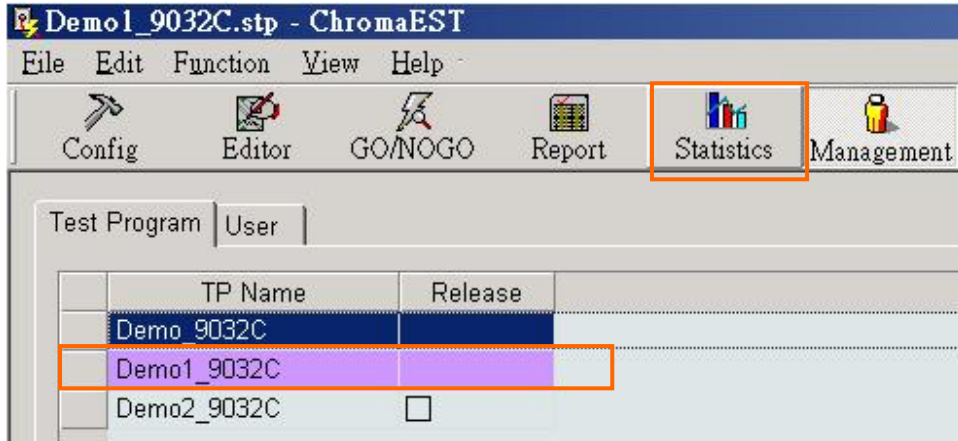

Figure 8-3
3. Statistics icon on toolbar is changed from Disable to Enable status. (*Figure 8-3*)